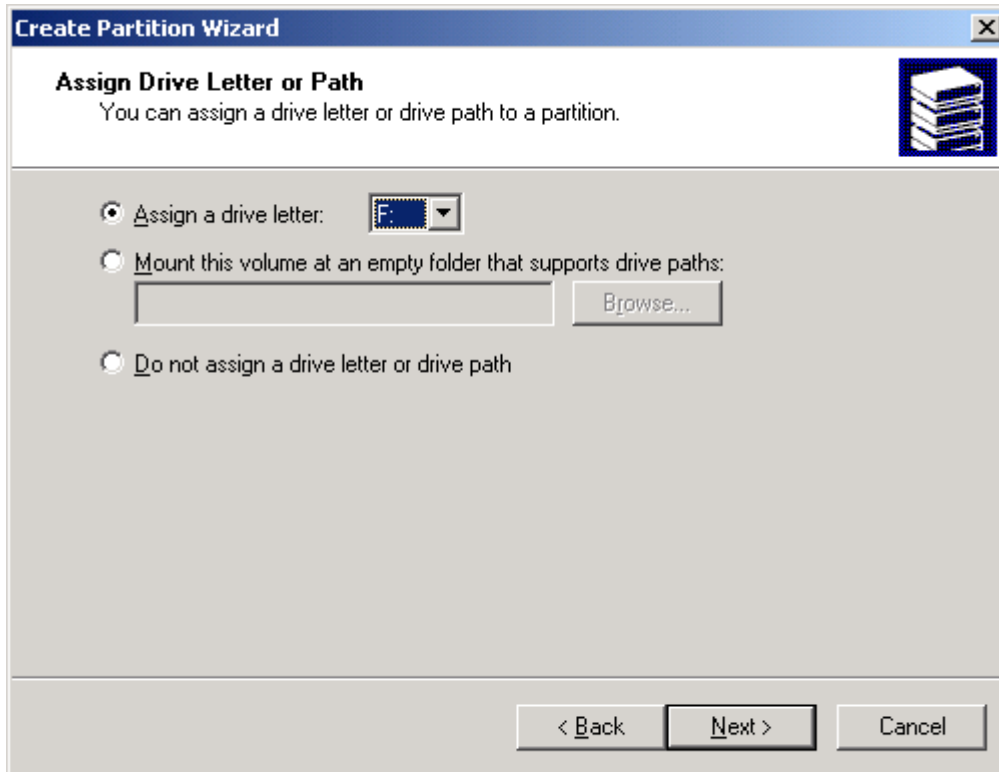

Figure 3.6 Assign Drive Letter or Path
3. The Assign Drive Letter or Path screen appears (see Figure 3.6). Select a drive letter. You may also state no drive letter or drive path. Click **Next**.